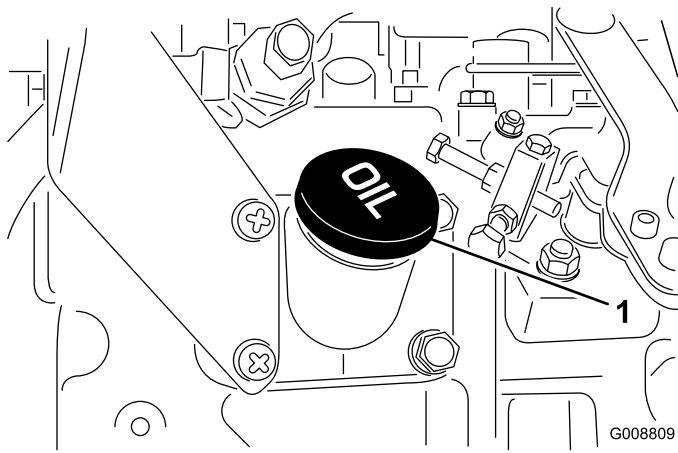

Figure 29
4. If the oil is below the safe range, remove the fill cap (Figure 29) and add oil until the level reaches the FULL mark. **Do not overfill.**